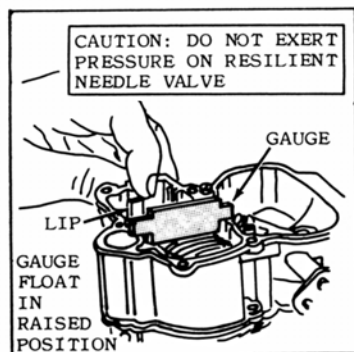

Fig. 1
a. Float Setting. (See figure 1.) Measure from top surface of main body (32) to center rib of float (22), while holding float with pin (21) in place and needle seated in needle seat. Refer to Adjustment Data Table for correct setting. Bend float lip to adjust.